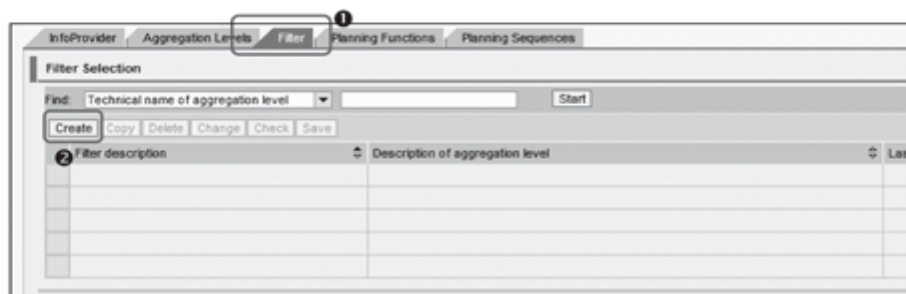

Figure 12.35 Create Filter
1. To create planning filters, go to the **FILTER** tab in the Planning Modeler (❶ of Figure 12.35), and click on **CREATE** (❷). This gives you a pop-up screen where you define the filter.